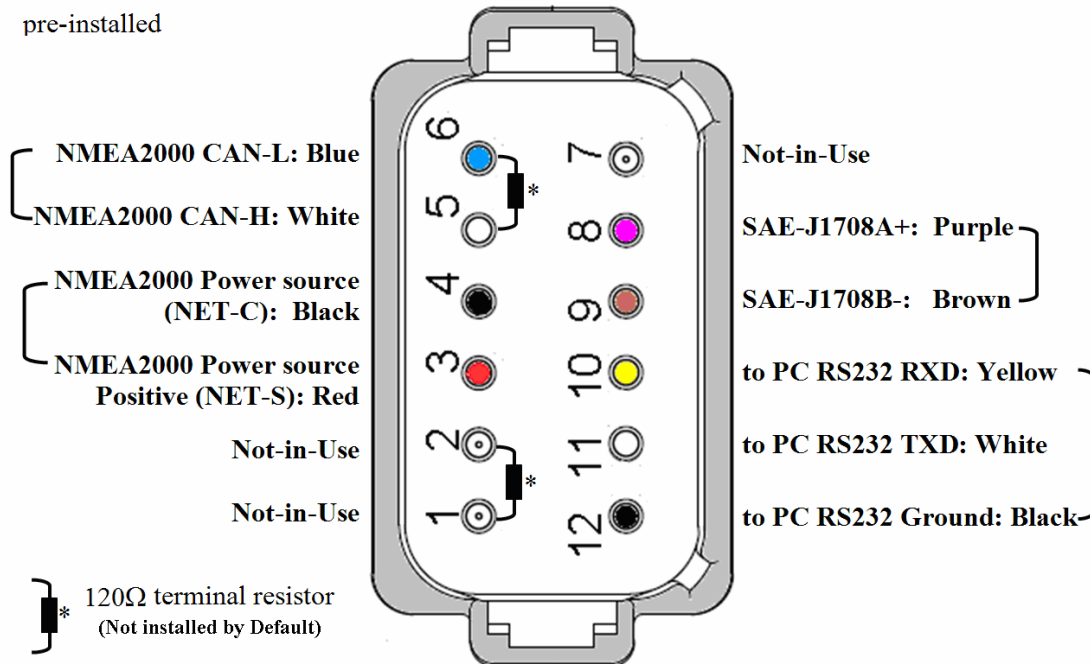

Figure 2 - DT15-12PA connector Pin-Out
- **Pin-out:** Pin-out definition of the DT15 serial 12-pin connector (DT15-12PA) connector is illustrated in figure 2